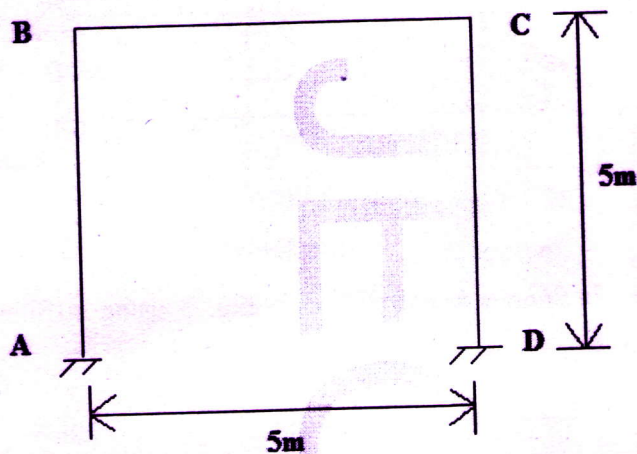

Fig. 7
- 17 a) Derive the global stiffness matrix for the frame shown in Fig.7 by direct stiffness method. (6)